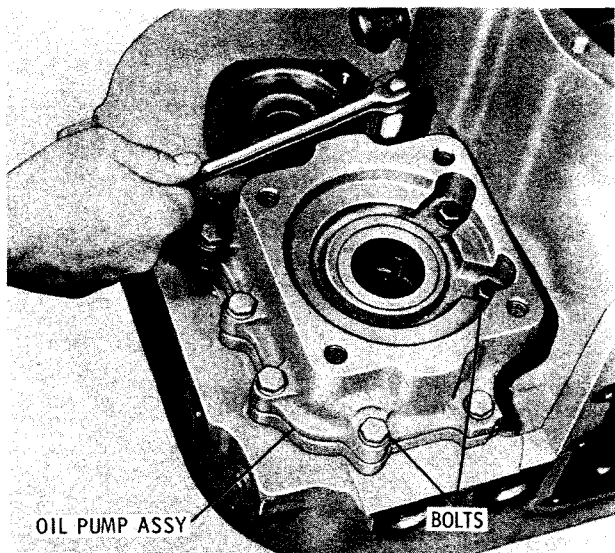

Fig. 5-32. Removing oil pump assembly
(1) Remove the nine bolts and lockwashers that attach the oil pump to the transmission housing (fig. 5-32).
(2) Remove the oil pump and gasket, pump cover, and cover gasket as an assembly. Do not separate the oil pump components unless inspection or parts replacement is necessary. Refer to paragraph 6-22 for oil pump rebuild instructions.